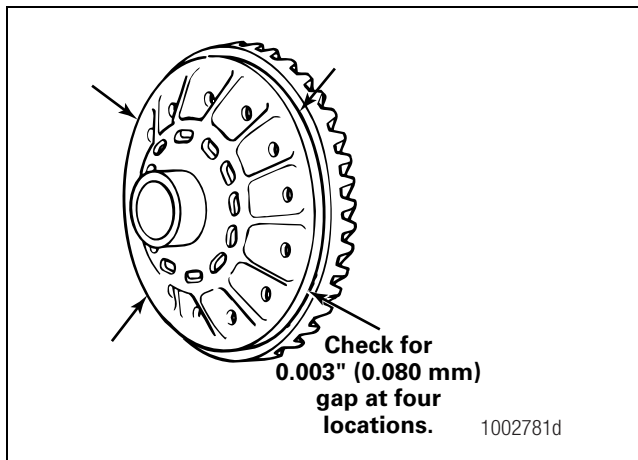

Figure 5.20
7. Inspect for gaps between the back surface of the ring gear and the case flange. Use a 0.003-inch (0.080 mm) feeler gauge to inspect at four points around the assembly. Figure 5.20.